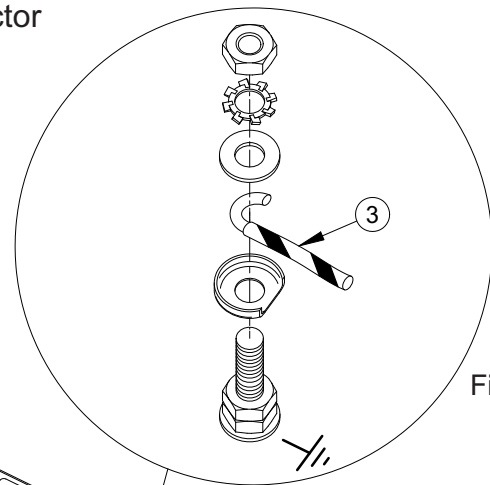

Fig. 13
4. Consolidate the stranded conductor ends by twisting and shape the earth conductor as shown in Fig. 13 (item 3).
6. Remove earth terminal post clamping components and assemble as shown in Fig. 13 ensuring shaped conductor is orientated as shown and all strands of the conductor are clamped between the washers.